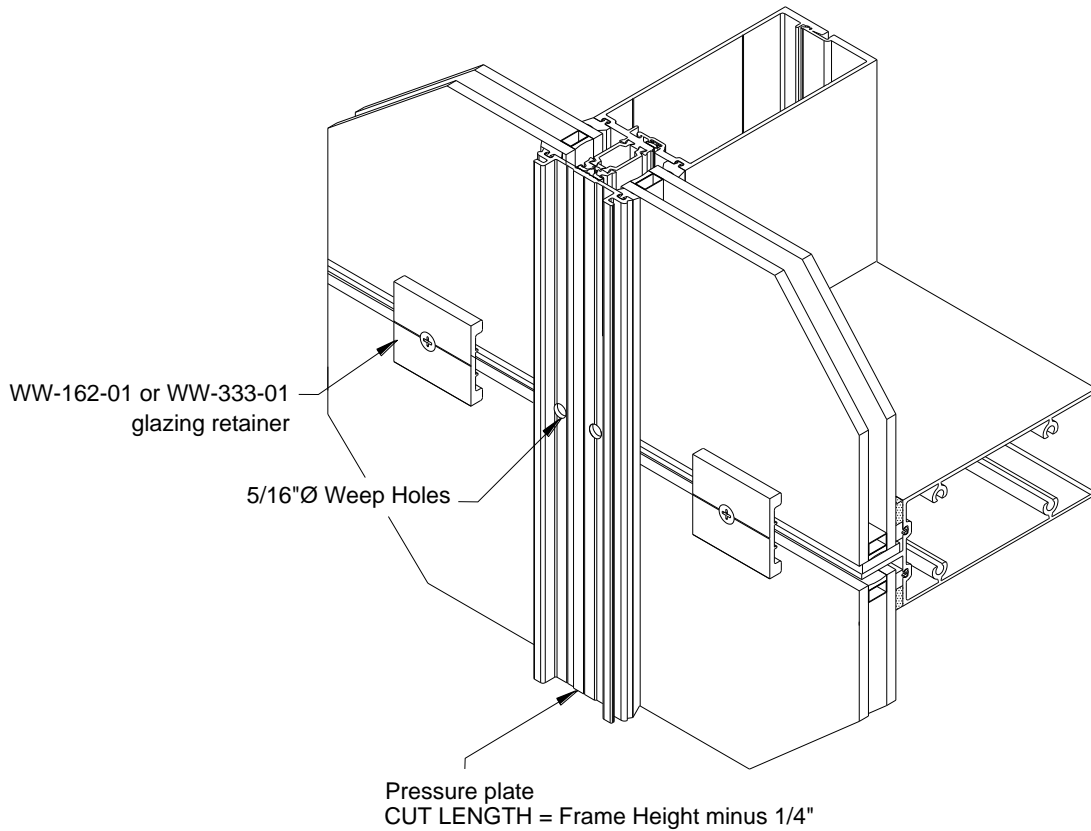

Figure 48: Temporary Clips at SSG Horizontal
- 18.5 Drill #20 (.161) holes as shown on **FIGURE 48** before the glass is installed. After the glass is set, attach temporary clips WW-333-01 using a FS-102 fastener.